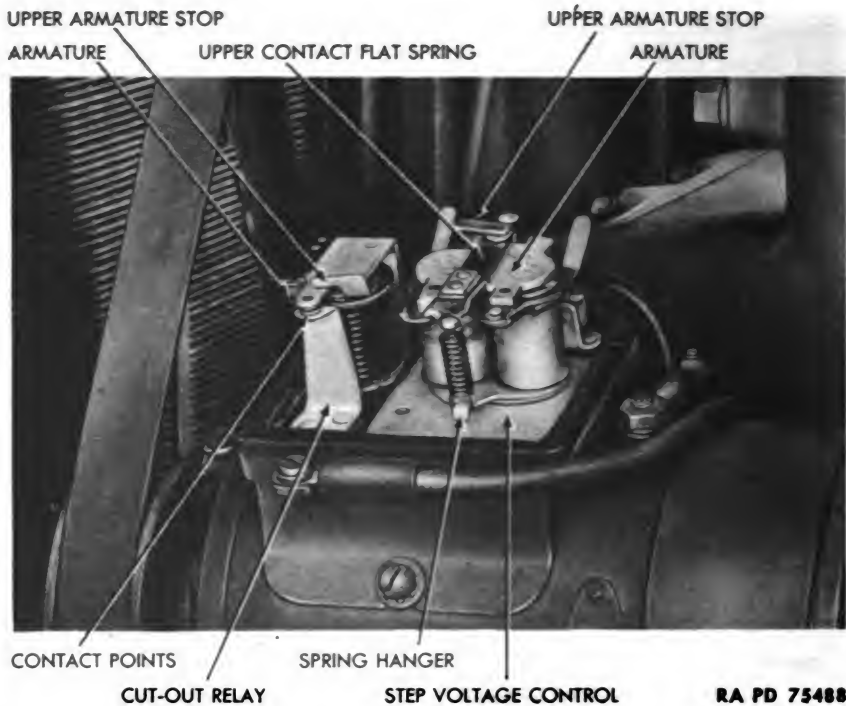

Figure 22 — Compressor Unit Generator Control Unit — Cover Removed
MOTORIZED AIR COMPRESSOR**(20) MECHANICAL ADJUSTMENT OF STEP-VOLTAGE CONTROL (UNIT DISCONTINUED) (fig. 22).**
(21) ADJUSTMENT OF OPENING AND CLOSING VOLTAGE OF STEP-VOLTAGE CONTROL (fig. 22).
(22) ADJUSTMENT OF CUT-OUT RELAY (fig. 22).